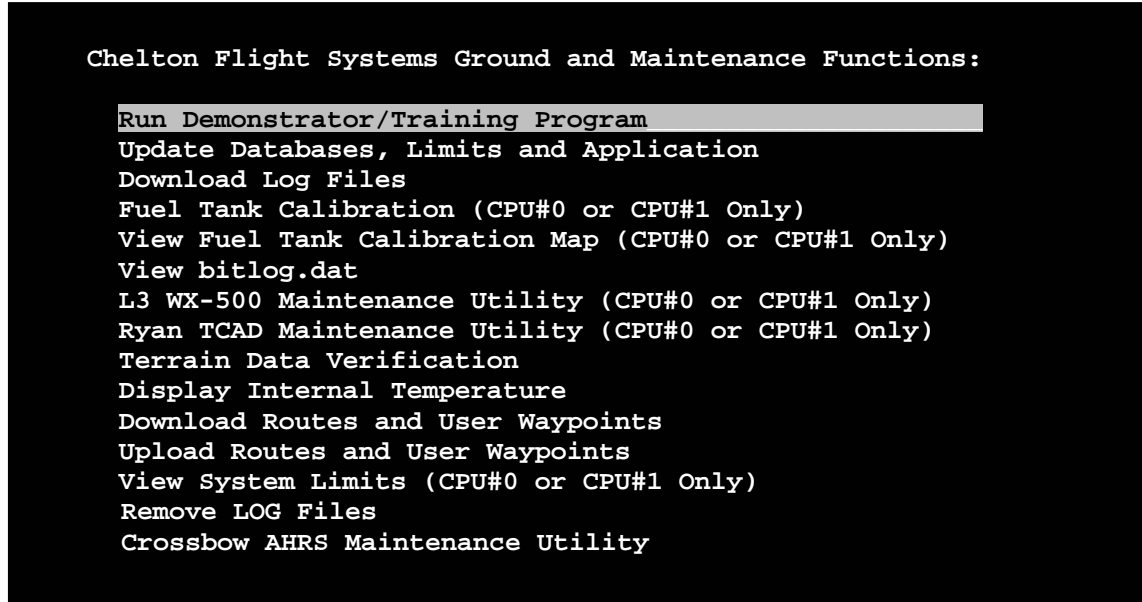

Figure 1 EFIS Ground Maintenance Menu
4. Verify the PFD or single MFD unit displays the Ground Maintenance menu (See Figure 1).
5. Verify the PFD or single MFD unit displays the Ground Maintenance menu (See Figure 1).
3. Verify the PFD or single MFD unit displays the Ground Maintenance Menu (See Figure 1).